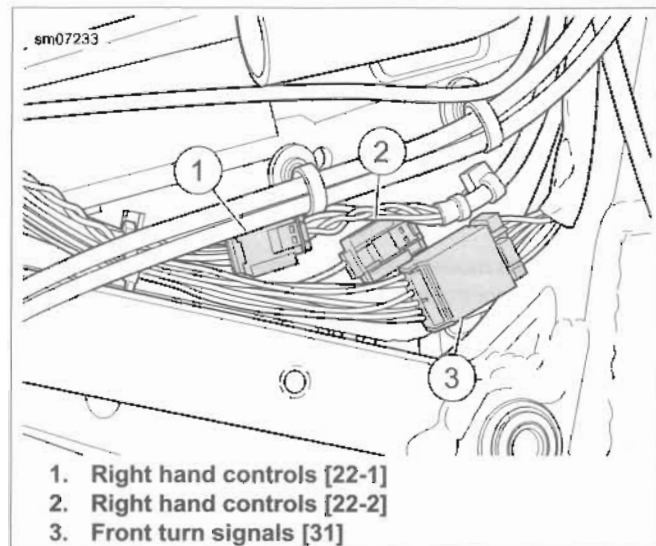

Figure 7-114. Under Fuel Tank Right Side
3. See Figure 7-114. Disconnect right hand control connectors (1, 2).
13. See Figure 7-114. Connect right hand control connectors (1, 2).